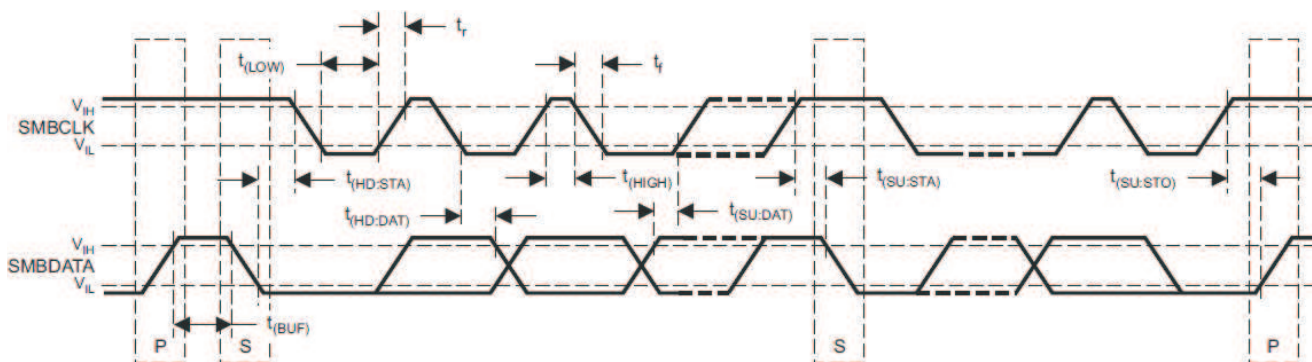

Figure 6. IC/SMBUS/PMBUS Timing Diagram2
The timing characteristics and timing diagram for the communications interface that supports I2C, SMBus, and PMBus in Slave or Master mode are shown in PMBus/SMBus/I2C Timing, Figure 6, and Figure 7. The numbers in PMBus/SMBus/I2C Timing shows that the device supports standard (100 kHz), fast (400 kHz), and fast-mode plus (1 MHz) speeds. (1)